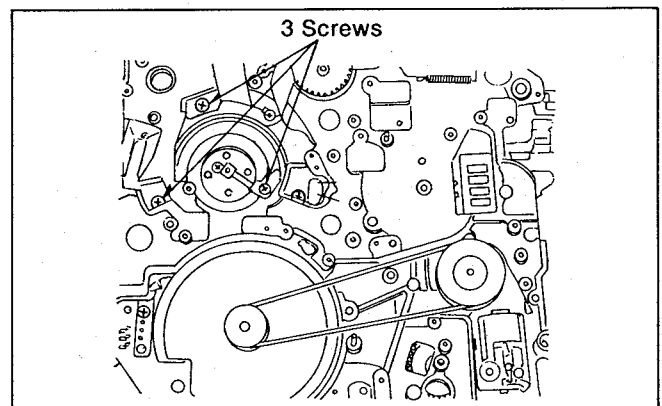

Fig. M41
- (1). Install the Cylinder unit from the front side, and then tighten the 3-Screws as shown Fig. M41.